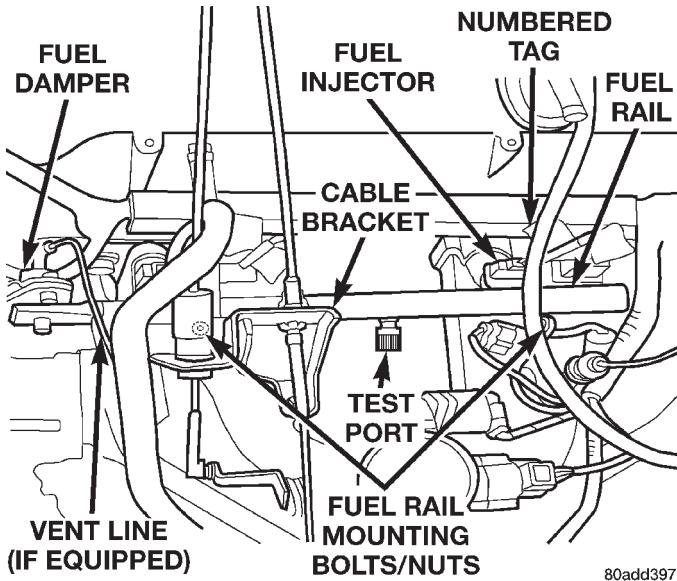

Fig. 30 Fuel Rail Mounting—2.5L Engine
- (1) Remove fuel tank filler tube cap.
- (2) Perform Fuel System Pressure Release Procedure as described in this Group.
- (3) Disconnect negative battery cable from battery.
- (4) Remove air tube at top of throttle body. Note: Some engine/vehicles may require removal of air cleaner ducts at throttle body.
- (5) Remove injector harness electrical connectors at each injector. Each injector connector should have a numerical tag attached identifying its corresponding cylinder (Fig. 30). If not, identify each connector before removal.
- (6) Disconnect vent line at fuel damper (if equipped).
(7) Disconnect fuel supply line latch clip and fuel line at fuel rail. Refer to Quick-Connect Fittings in this group for procedures.
(8) Disconnect throttle cable at throttle body. Refer to Throttle Cable Removal/Installation in this group for procedures.
(9) Disconnect speed control cable at throttle body (if equipped). Refer to Speed Control Cable in Group 8H, Speed Control System for procedures.
(10) Disconnect automatic transmission cable at throttle body (if equipped).
(11) Remove cable routing bracket (Fig. 30) at intake manifold.
(12) Remove nut securing crankshaft position sensor pigtail harness to fuel rail mounting stud. Remove clamp and harness from fuel rail mounting stud.
(13) Clean dirt/debris from each fuel injector at intake manifold.
(14) Remove fuel rail mounting nuts/bolts (Fig. 30).
(15) Remove fuel rail by gently rocking until all the fuel injectors are out of intake manifold.